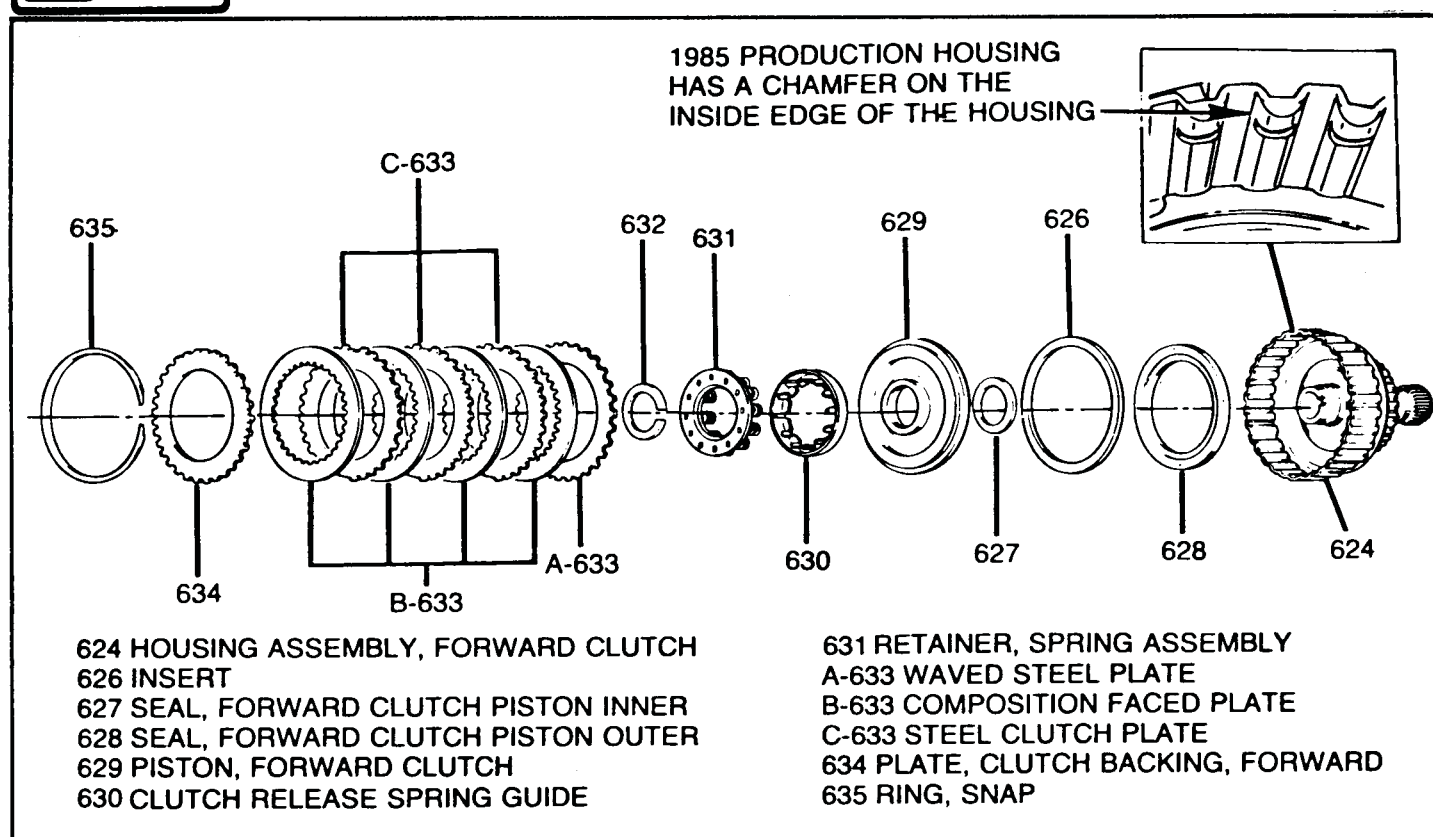

Figure 53
- 4) The forward clutch housing top snap ring groove has been moved toward the piston, and can be identified by the chamfer on the inside edge of the housing (Compare Figures 53 and 56).